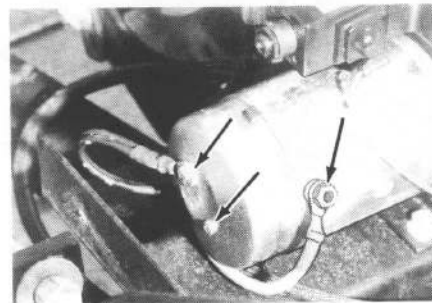

Figure 2-32
6. Install motor cover and secure with two screws and ground strap. See Figure 2-32.